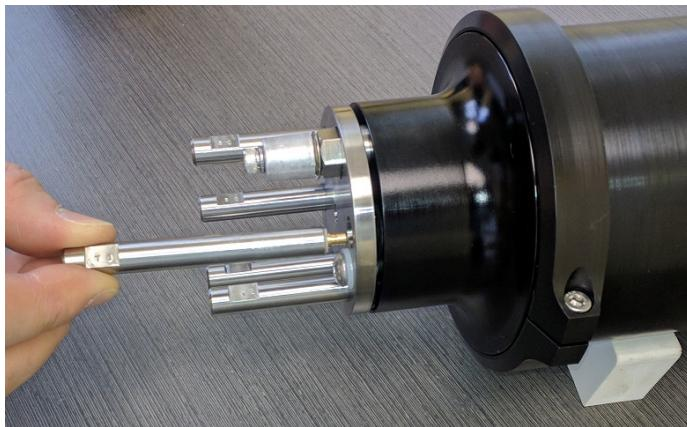

Figure 14: Removal of a test probe
2. Once the seal compression plate has been sufficiently loosened, gently pull on the probe to free it from its connection inside the bulkhead (Figure 14). Be careful to avoid contacting other sensors during the removal of a probe. Then remove the plate and o-rings and dry everything off with kimwipes. Be careful to not scratch the probe sting on the com-